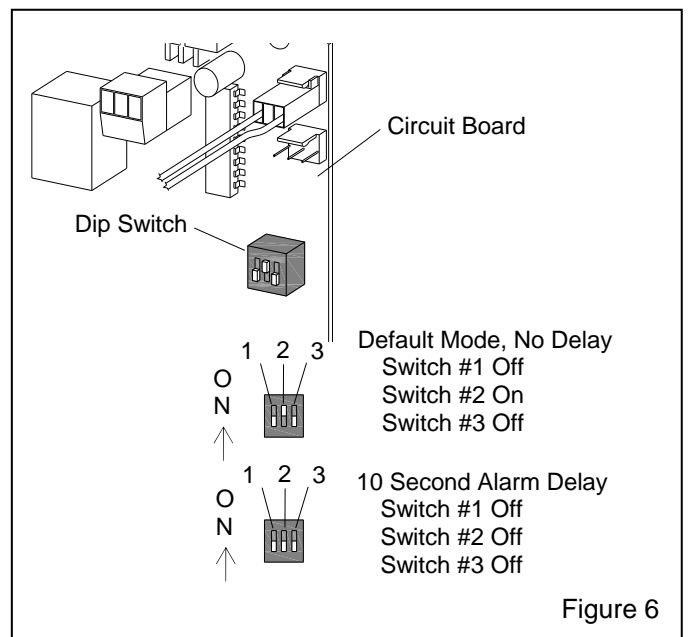

Figure 6
2.7 Changing Mode Select Dip Switch to Delay Alarm – Figure 6
NOTE: In areas where intermittent radio frequency transmissions cause false alarms, the monitor can be set to have a 10 second alarm delay to avoid false alarm conditions. The dip switch is mounted on the circuit board as shown in Figure 6.
Do not change the switch positions unless there are frequent alarms from radio frequency (RF) transmissions. Do not change the switch positions to any position other than noted in Figure 6. Avoid unnecessary tampering with the circuit board; doing so can change the monitor's settings, which can affect CO alarm conditions.
2.7.1 The default and recommended setting has no delay in alarm-response time. The positions of the white mode-select switches are shown on the upper example in Figure 6 and as follows:
2.7.2 To delay the alarm by 10 seconds, set the white mode-select switches as shown on the lower example in Figure 6 and as follows: